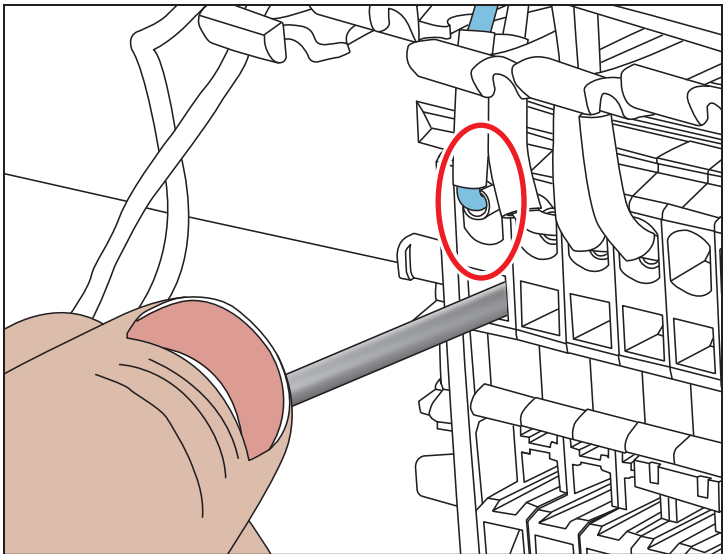

Figure 12
c) Once resistance is felt, insert wire into terminal block (see Figure 12); slowly remove screwdriver. IMPORTANT! Do not move screwdriver up or down inside terminal block. Failure to do so could damage terminal block.